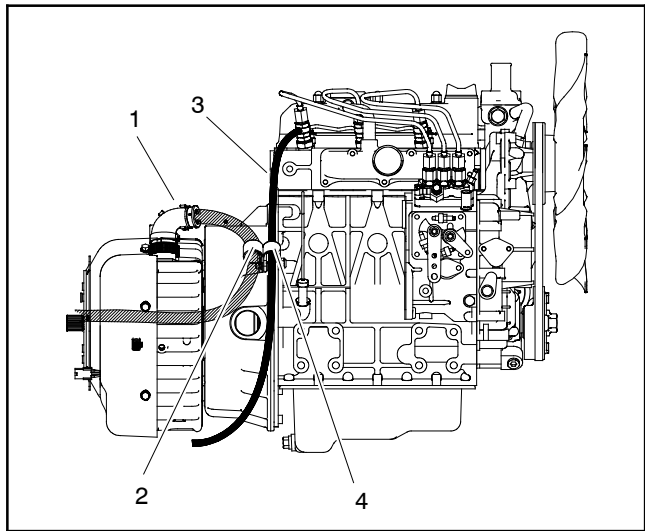

Figure 101
7. For assembly purposes, note locations of r-clamps on bellhousing (Fig. 101). Support motor/generator and bellhousing to prevent the assembly from falling or shifting.
5. Lower motor/generator and bellhousing assembly toward engine, engage motor/generator coupler hub (item 5) into flywheel coupler flange (item 17) and slide bellhousing to engine plate.
6. Secure bellhousing to engine plate with removed fasteners. Make sure that r-clamps are in locations noted during disassembly (Fig. 101). R-clamp that secures motor/generator wire harness connection should cover red tape on harness.